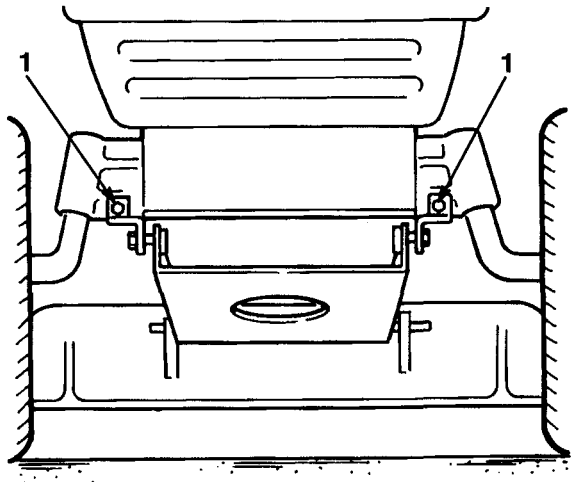

Figure 36
- Remove the bolts and lock nuts and pull the two mower pivot mount brackets down from the front axle (Fig. 36).